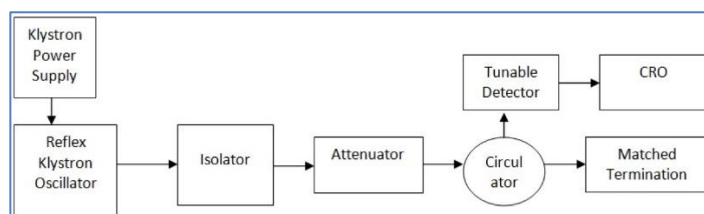

Figure 6.1: Circulator block diagram
- Calculate the insertion loss of a circulator as shown in the figure 6.1 using the formula: